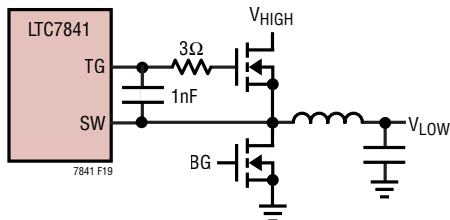

Figure 19. Filter for TG Traces > 25mm
2. The TG traces from the controller IC to the gate of the external MOSFET should be kept as short as possible to minimize the parasitic inductance. This inductance can cause voltage spikes that can potentially exceed the ABS Max rating of the drivers and damage them. A 3 $\Omega$  resistor and 1nF capacitor can be used to filter these spikes as shown in Figure 19. If the TG traces are longer than 25mm, this filter network must be used on both TG1 and TG2. The 1nF capacitor should be placed as close to the TG/SW pins as possible.